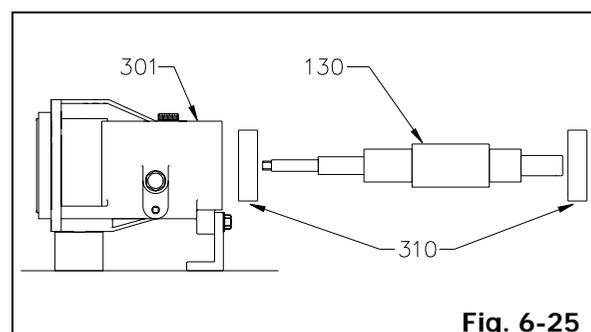

Fig. 6-25
7. Remove shaft (130) with bearings (310 for KS-SR or 311 and 312 for KS-SG) from bearing bracket (301) or bearing frame (300) by tapping with a piece of tubing placed against the inner race of pump end bearing (310 for KS-SR or 311 for KS-SG).
8. Jack off bearings (310 for KS-SR or 311 and 312 for KS-SG) from shaft (130) (Fig. 6-25).